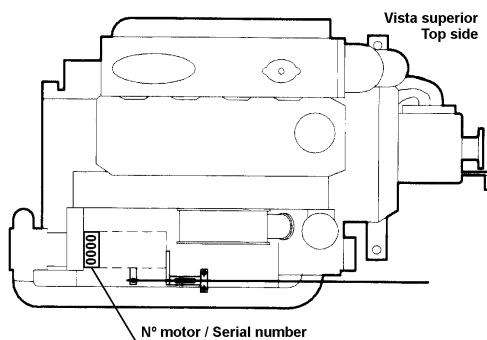

Fig. 1.2
- Markings stamped on the engine showing serial number (see Fig. 1.2)